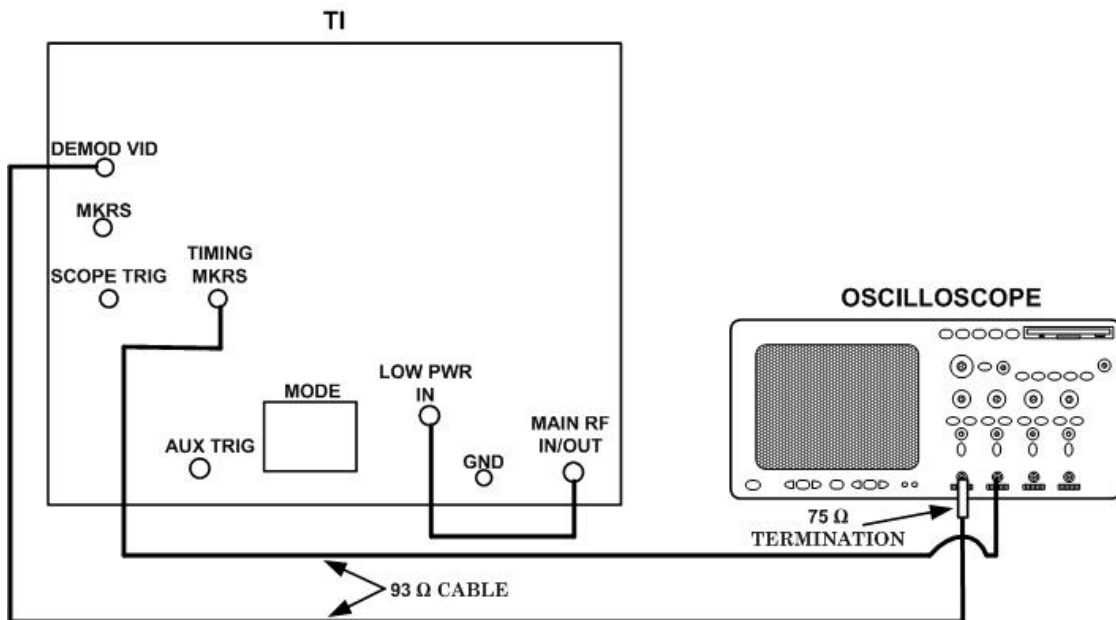

Figure 2. Challenge code - equipment setup.
(1) Connect equipment as shown in figure 2.
(2) Position switches as listed in (a) through (c) below: